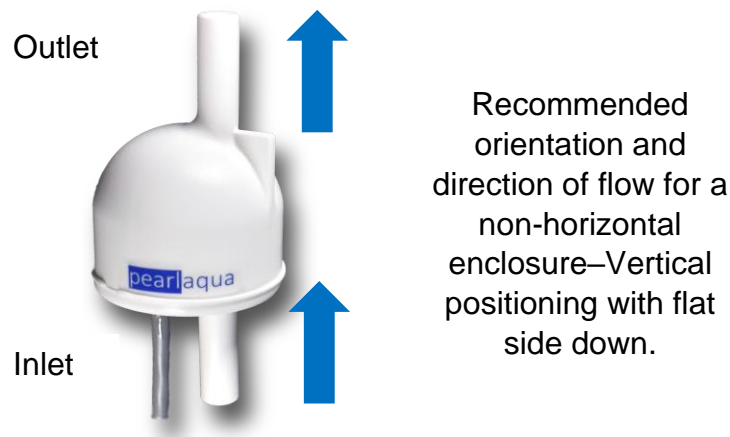
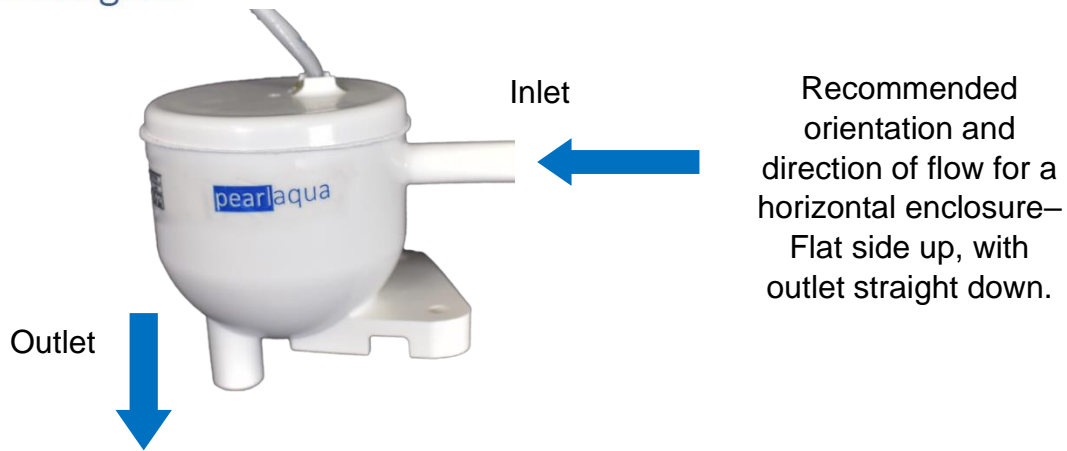

Figure 2-2: Recommended orientation of non-horizontal enclosure to prevent trapped air which may affect disinfection performance
Figure 2-3: Recommended orientation of unit with horizontal enclosure
2. If applicable, mount the Micro securely in a safe location. Note the recommended orientation in **Figure 2-2** or **Figure 2-3** above.